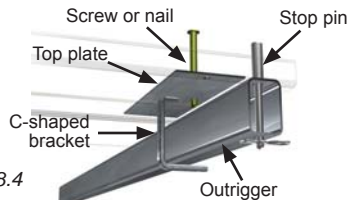

Fig. 8.4
- 1- Remove the stop pin (fig. 8.4) and slide the plank safety support between two planks.